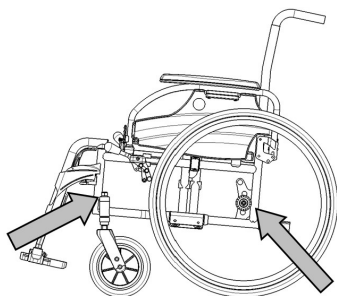
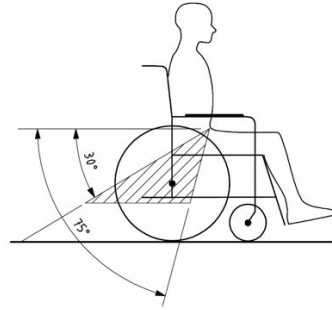

Figure 1
Figure 2
6. Mount the front securement straps according to the instructions of the strap-system manufacturer at the indicated place (figure 1). This place is marked on the wheelchair with a symbol (figure 2).
9. Mount the back securement straps according to the instructions of the strap-system manufacturer at the indicated place (figure 1). This place is marked on the wheelchair with a symbol (figure 2).